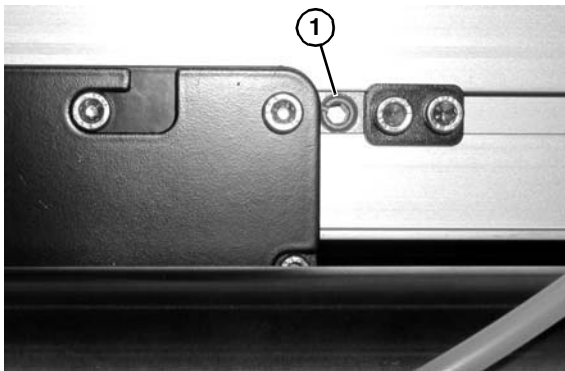

Figure 44
3. Rotate the tracking cam (Figure 44, item 1) in small increments, each time inspecting the belt as it exits the center drive. Continue to rotate the tracking cam until conveyor belt is tracking normally.